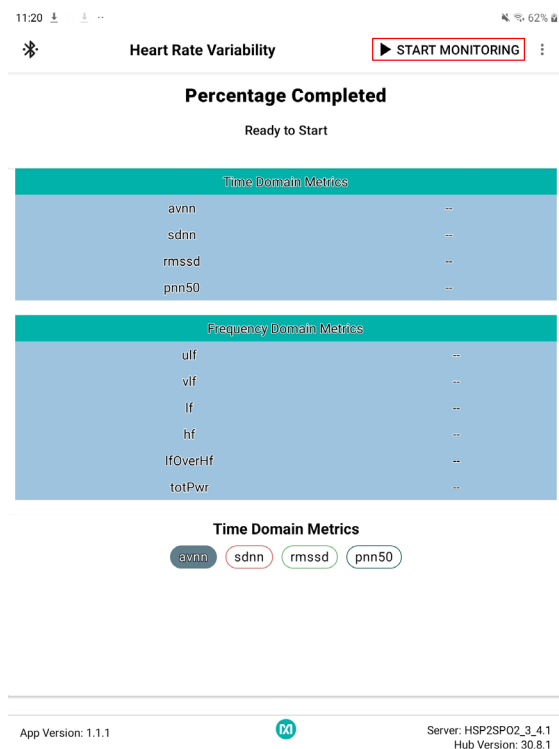

Figure 47. Start heart-rate variability measurement.
1. Click the back button of the Android device to go back to the main menu and click **Heart Rate Variability**. The individual graphing of the avnn, sdnn, rmssd, or pnn5 data can be selected by selecting the button of interest and deselecting the other three. For instance, avnn is selected in Figure 47, and the other measurements are deselected. To start the heart-rate variability monitoring, click the play icon.